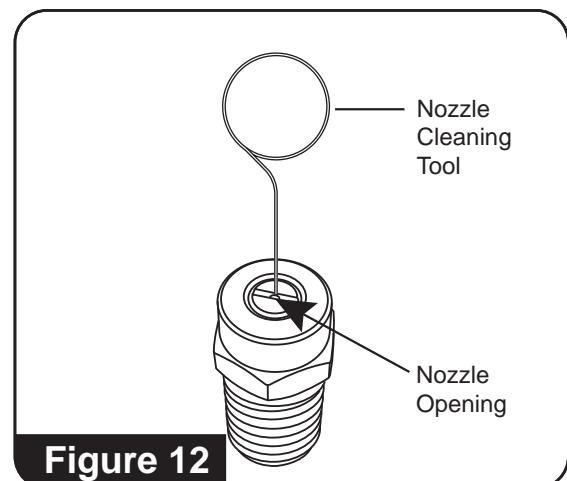

Figure 12
4. Using the nozzle cleaning tool, free any foreign material clogging or restricting nozzle openings. (**See Figure 12**)